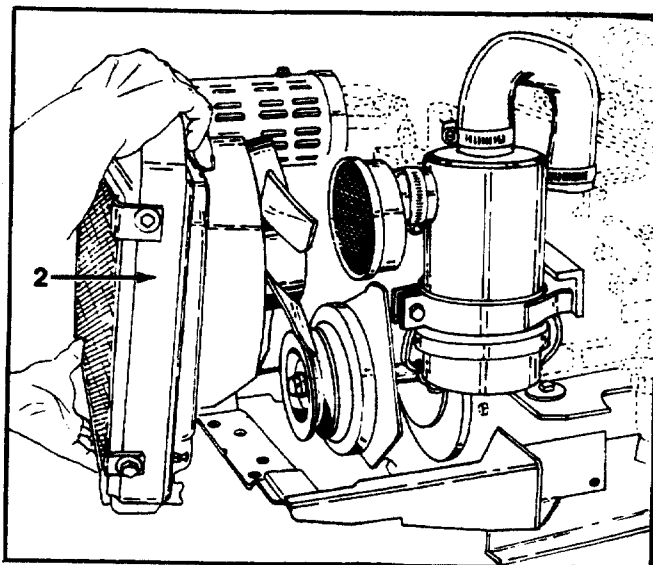

FIGURE 6.
7. Remove radiator with screen, lift outward and off. See figure 6.